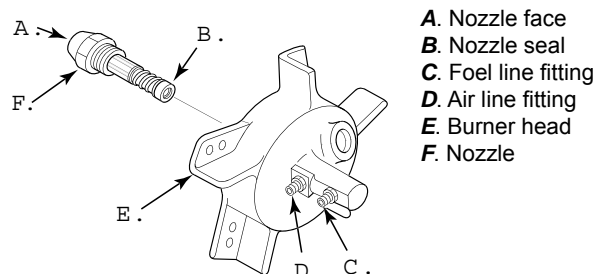

Figure 24 – Removing nozzle, 70,000, 100,000, 150,000 Btu/Hr models.
- 8.Carefully remove nozzle from burner head using 5/8" socket wrench (see Figure 24).